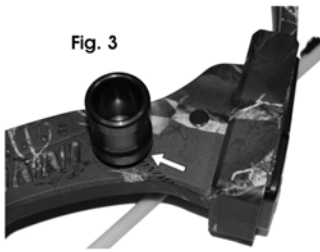

Fig. 3
2. Next you can install the included Line Pull. It can be mounted in multiple locations. There are two bolts supplied, use the 5/16 24 bolt to mount to the stabilizer hole or to the front of most all spin-cast reel seats. The larger bolt may be used to mount the Line-Pull to either of the two remaining holes in the riser. (see fig. 3) They can be attached to the right or left side; which ever is handy for you.